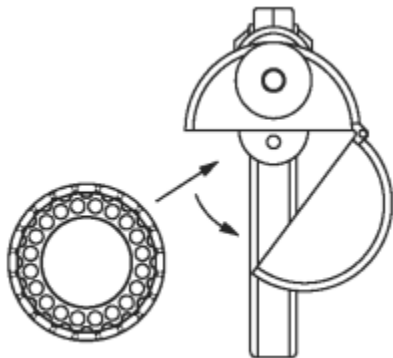

Figure 1
- To load the Compudose/Encore Implanter remove the cartridge from the package, release the latch on the magazine, open and insert the cartridge. (Figure 1)